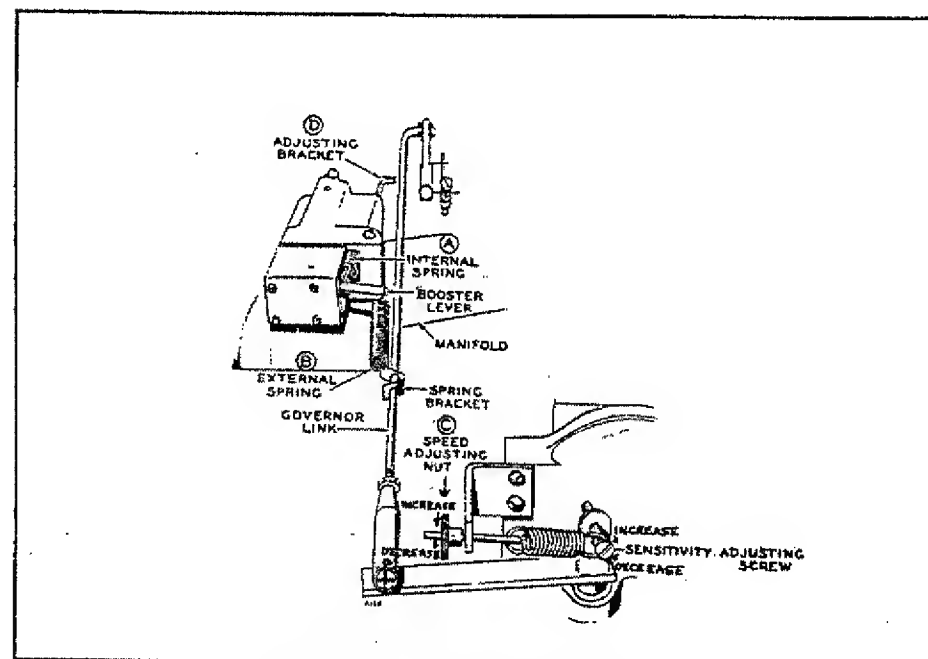

Fig. 21 Governor Booster
The booster is mounted on the intake manifold and is operated by engine vacuum through a small passage in the manifold. See Fig. 21. When the plant is operating at about half load or less, the engine vacuum is sufficient to cause the diaphragm to overcome the tension of the internal booster spring (A). Under these conditions, there is no tension on the booster external spring (B) and the booster does not affect the governor operation.
2. With the plant operating at no load, disconnect the booster external spring (B), Fig. 21. Turn the speed adjusting nut (C) to obtain a frequency reading of 60 to 61 cycles for a 60 cycle plant (50 to 51 cycles for a 50 cycle plant). The voltage should be within the limits shown in the table IV, according to the rated plant voltage shown on the plant nameplate.
3. Connect a full electrical load to the generator. As the electrical load is connected, the governor should act smoothly and quickly to keep the voltage within the limits in the table. However, there should be not more than a spread of 3 cycles between the no load frequency and the full load frequency. For example, if the frequency was 60 cycles at no load, then the full load frequency should be not less than 57 cycles. If the cycle spread is more than 3 cycles, turn the sensitivity screw, Fig. 21, in (clockwise) a half turn. This will, in turn, necessitate a slight compensating speed nut adjustment. Repeat the process until the cycle spread is within 3 cycles and voltage is within the limits shown in the table.
8. After satisfactory performance has been attained under various loads the booster can be connected. With the plant operating at no load, connect the booster external spring, Fig. 21. Adjust the bracket on the governor link just to the position where there is no tension on the spring.
9. Now connect the full electrical load to the generator. The frequency should stabilize at a point 1 to 2 cycles HIGHER than the no load frequency. For example, if the no load frequency is 60 cycles, the frequency under full load should be 61 to 62 cycles. If the rise in frequency is more than 2 cycles, lessen the internal spring tension. If there is a drop in the frequency, increase the internal spring tension. Adjust the tension of the internal spring by pulling out on the spring bracket (E) and moving the pin to a different hole.
12. The booster requires little maintenance other than using a fine wire to clean the small hole in the short vacuum tube which fits into the hole in the top of the engine intake manifold. Do not enlarge this hole. If there is tension on the external spring, Fig. 21, when the plant is operating at no load or light load, it may be due to improper adjustment, restricted hole in the small vacuum tube, or a leak in the booster diaphragm.